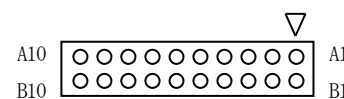

Fig. 9 External remote connector
⑪ External remote input (Fig. 9 external remote connector)